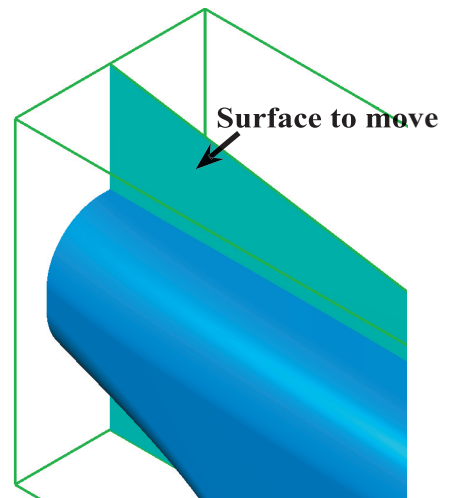

Fig. 42
Step 1. Click the **Left Cut surface** that was just created, **Fig. 42**.